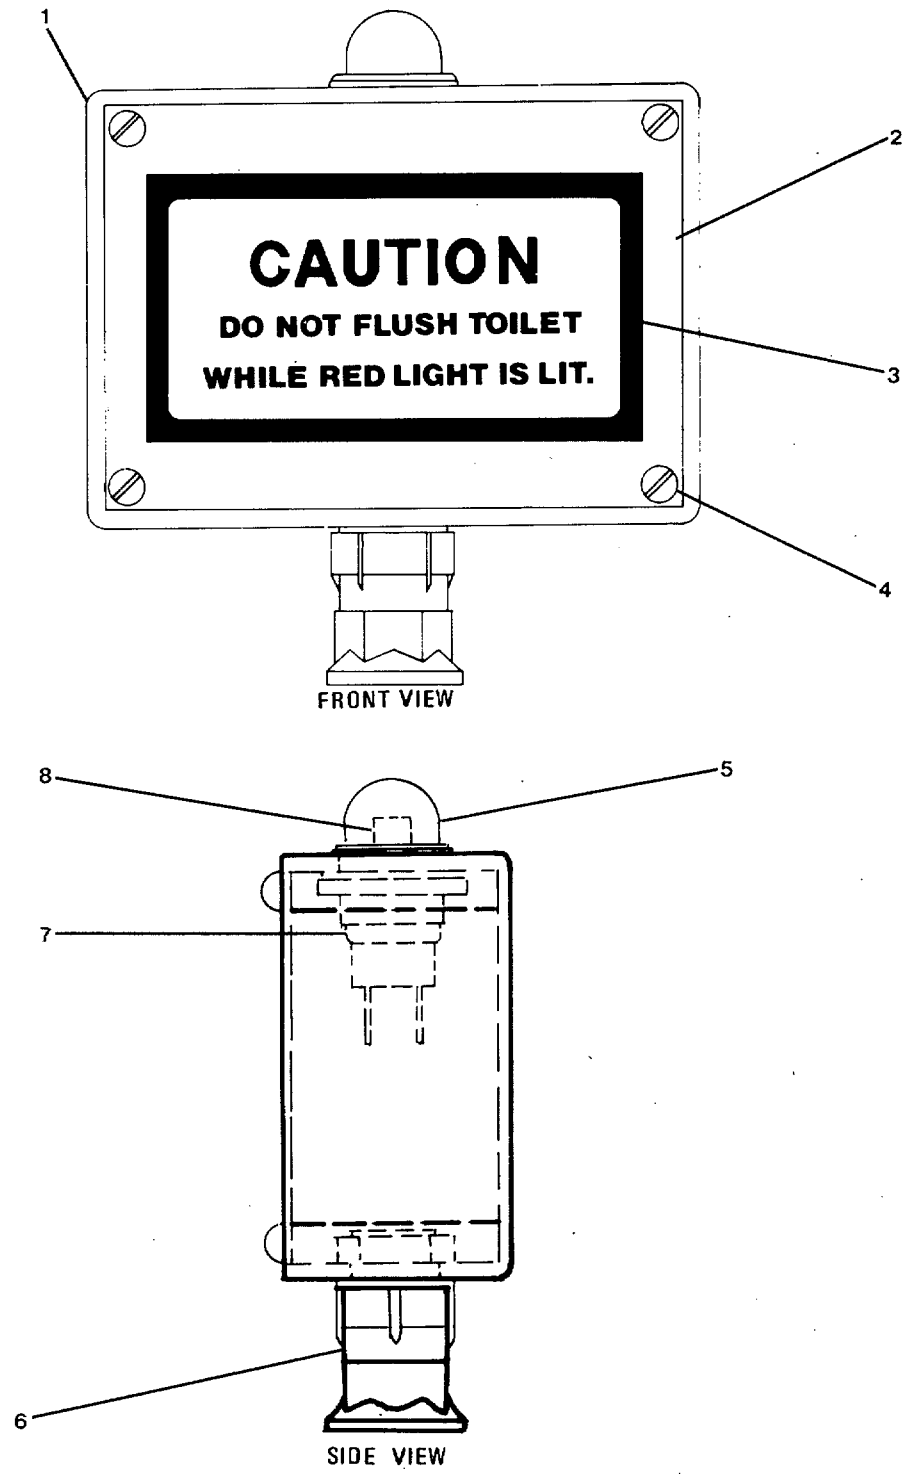

Figure 2-27. Commode Warning Light Assembly.
The sanitary system has a commode warning light and audible alarm mounted in the 01 level passageway. A tank FULL condition exists when the red light is ON. The toilet(s) must not be flushed until the light is out. See caution plate on the light case (3, FIGURE 2-27).
- a. Remove panel screws (4, FIGURE 2-27) from each corner of the assembly (1). Remove front panel (2) to expose the lamp socket (7) with wiring connections.
- a. Pull the electrical wires through the cable connector (6, FIGURE 2-27) on the bottom of the assembly.
- c. Insert a new bulb (8) in the socket (7).
- d. Position the red lens (5) in the assembly (1) and connect the socket and bulb with the socket locknut.
- f. Install the front panel (2) with the four screws(4).